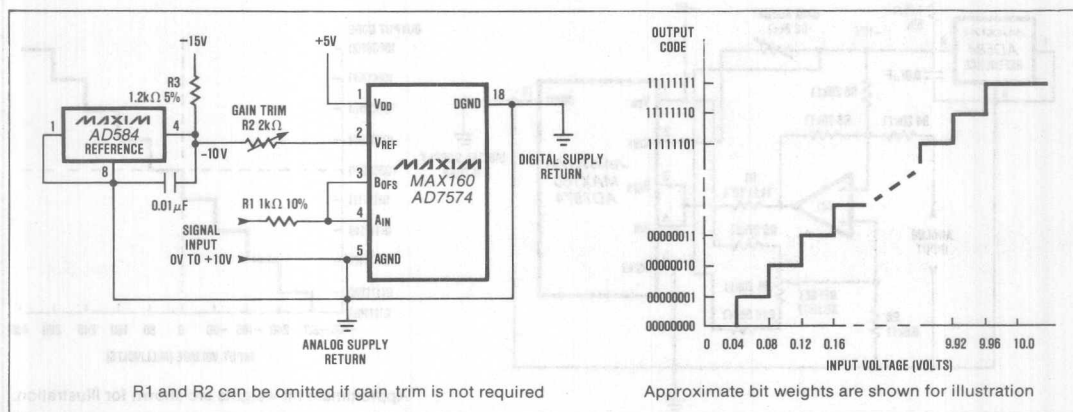
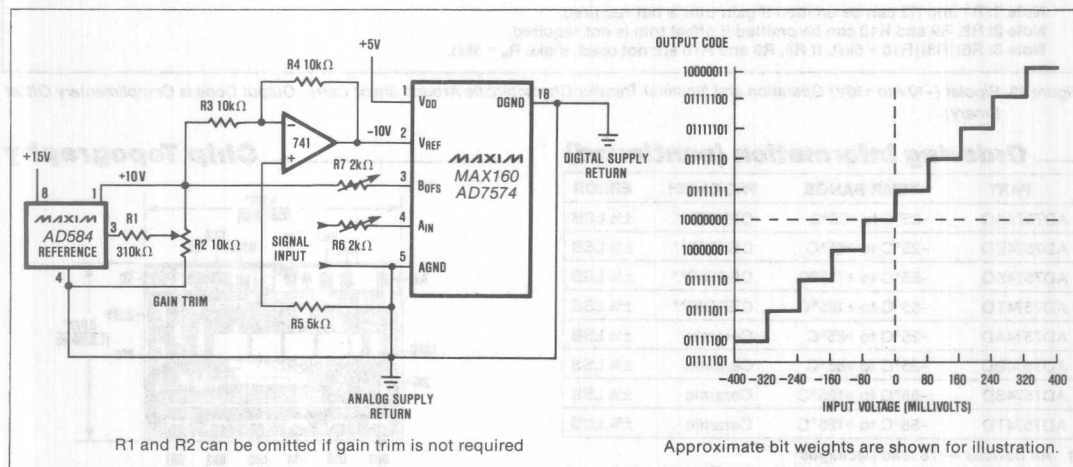
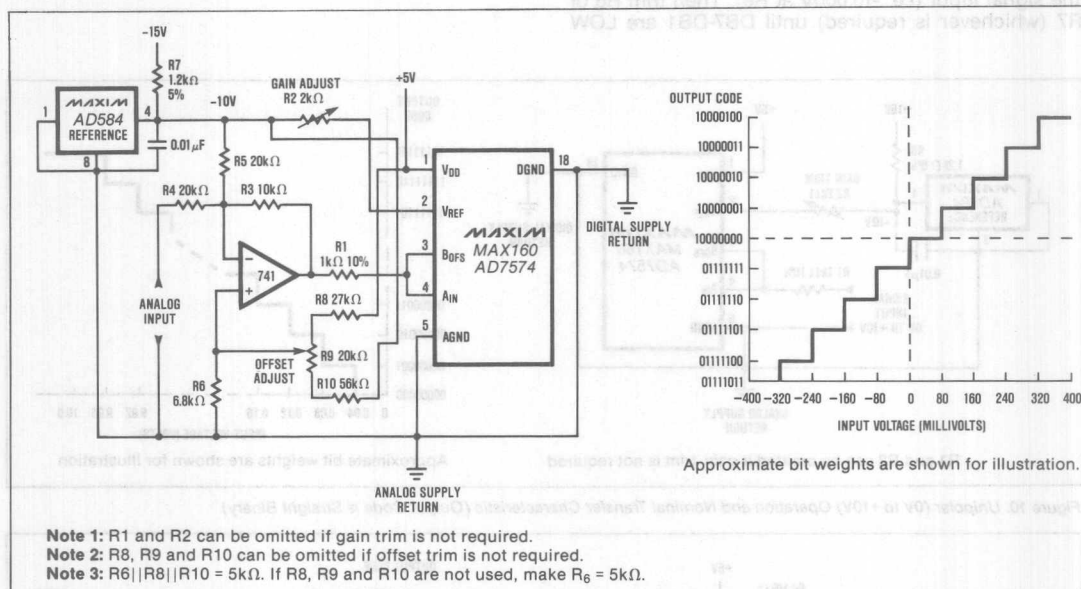

Figure 10. Unipolar (0V to +10V) Operation and Nominal Transfer Characteristic (Output Code is Straight Binary)
Figure 11. Bipolar (-10V to +10V) Operation and Nominal Transfer Characteristic Around Major Carry (Output Code is Offset Binary)
Figure 12. Bipolar (-10V to +10V) Operation and Nominal Transfer Characteristic Around Major Carry (Output Code is Complimentary Offset Binary)
Offset error in the transfer function can be trimmed by offsetting the buffer that drives the A_{IN} input. This can be achieved either by summing a cancellation current into the amplifier's summing junction, or by tapping a voltage divider which sits between V_{DD} and V_{REF} and applying the tap voltage to the amplifier's non-inverting input. An example of the latter method can be seen in Figure 12.
Figures 10 shows the analog circuit connections and nominal transfer characteristic for unipolar operation. Calibration is as follows:
If offset trimming is required, it must be done in the signal conditioning circuitry used to drive the A_{IN} input in Figure 10. See also the offset trim example shown in Figure 12.
Figure 11 illustrates the analog circuitry and transfer function for bipolar operation. The output coding is offset binary. Offset correction can be performed at the buffer amplifier used to drive the signal input terminals of the MAX160/AD7574. See Figure 12 for an example of how offset trimming can be performed. Calibration is as follows:
Figure 12 shows the analog connections for offset binary operation. The typical transfer characteristic is also shown. In this bipolar mode, the input signal (-10 to +10V) is conditioned and the A/D basically operates in unipolar mode (0 to +10V). Calibration is as follows (offset adjusted before gain):
1. Apply 0V to the analog input shown in Figure 12.
1. Apply -9.922V across the analog input terminals shown in Figure 12.